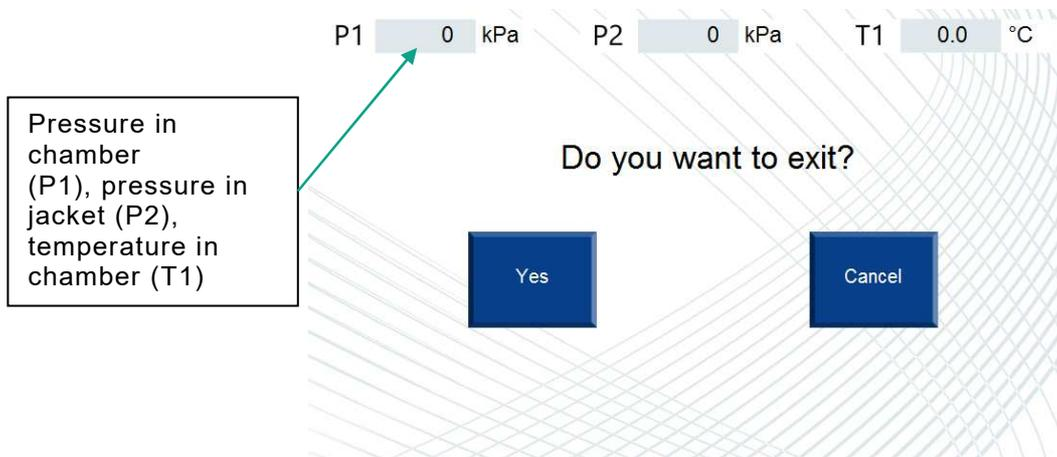

Fig. 34
**Exit** – pressing this button stops the test. When this button is pressed, a process interruption confirmation window appears (see Fig. 34).